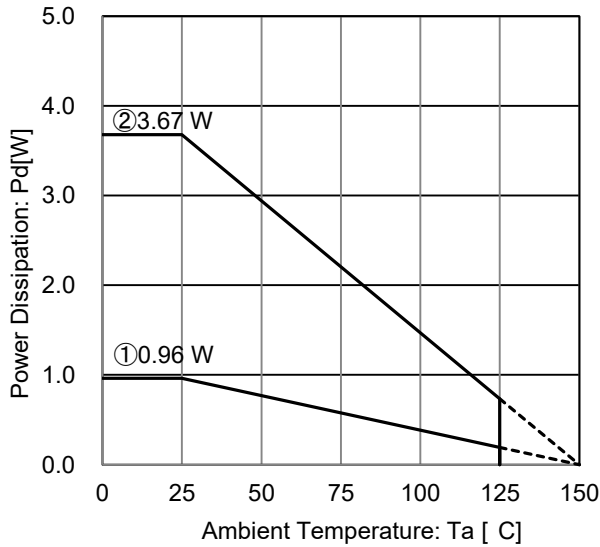
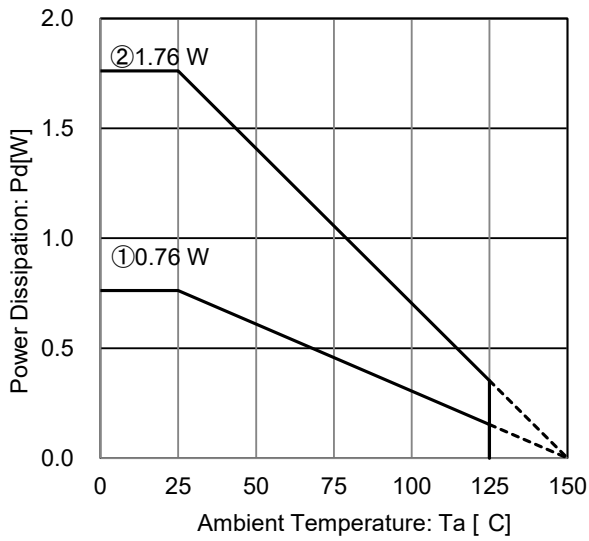

Figure 25. HTSOP-J8 Package Data
Figure 27. SOT223-4(F) Package Data
Refer to the heat mitigation characteristics illustrated in Figure 25 to Figure 27 when using the IC in an environment of $T_a \geq 25^\circ\text{C}$. The characteristics of the IC are greatly influenced by the operating temperature, and it is necessary to operate under the maximum junction temperature T_{max} .
At $T_a = 125^\circ\text{C}$ with Figure 25 ② condition, the calculation shows that ca 71.5mA of output current is possible at 10.2V potential difference across input and output.
At $T_a = 125^\circ\text{C}$ with Figure 25 ② condition, the calculation shows that ca 85.8mA of output current is possible at 8.5V potential difference across input and output.
At Ta=125°C with Figure 27 ② condition, the calculation shows that ca 34.3mA of output current is possible at 10.2V potential difference across input and output.
At Ta=125°C with Figure 27 ② condition, the calculation shows that ca 41.1mA of output current is possible at 8.5V potential difference across input and output.